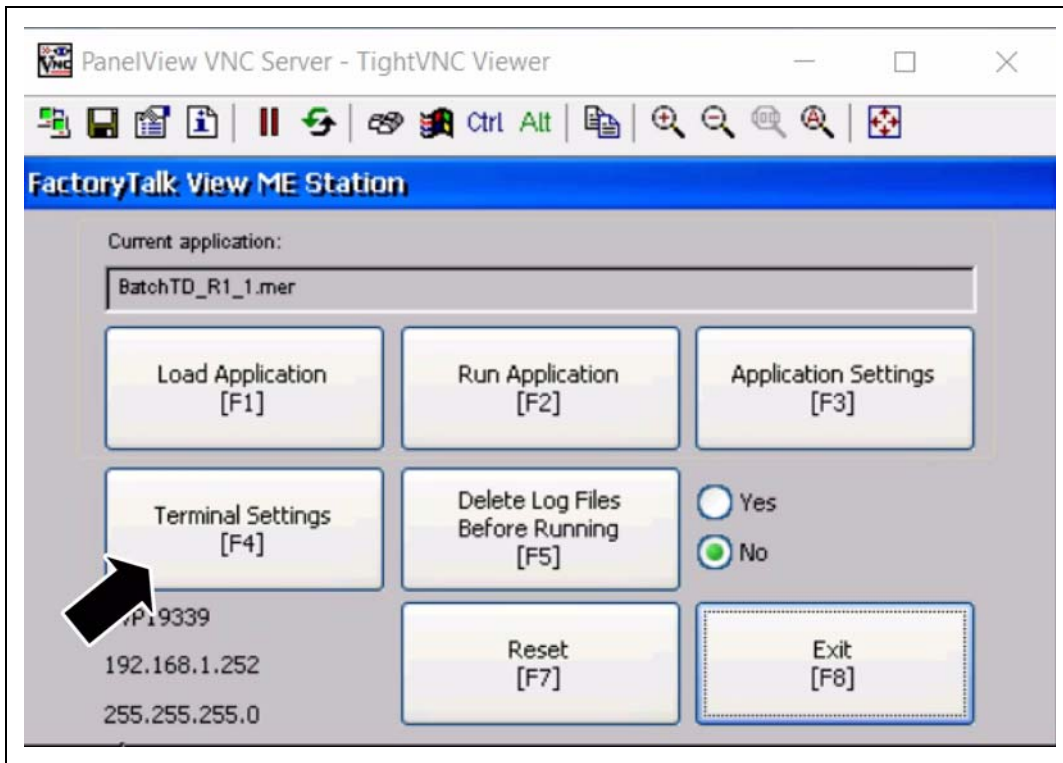

Figure 4A
1. Select Terminal Settings and press enter. (See Figure 4A.)